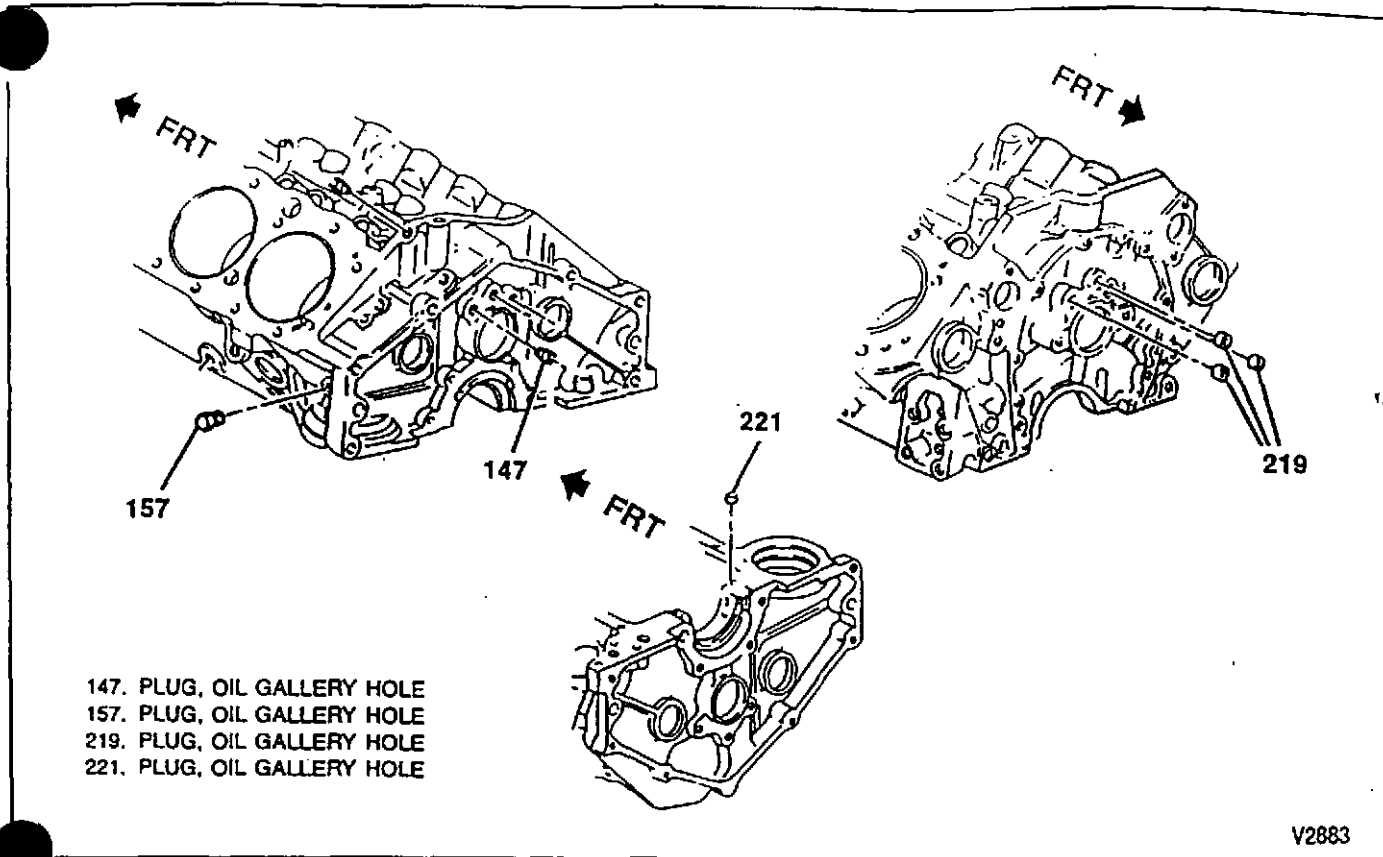

Figure 40—Engine Block Oil Gallery Hole Plugs (5.0L and 5.7L Engines)
Clean (Figures 40, 41, and 42)
- Oil galleries and passages (figures 40 and 42).